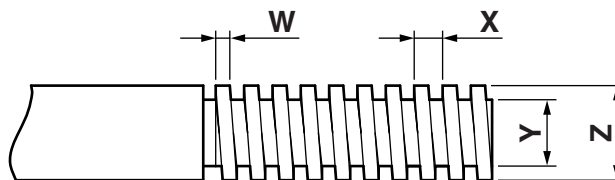

Fig. 17
- (e) Fig. 17 shows a threaded rod with dimensions.